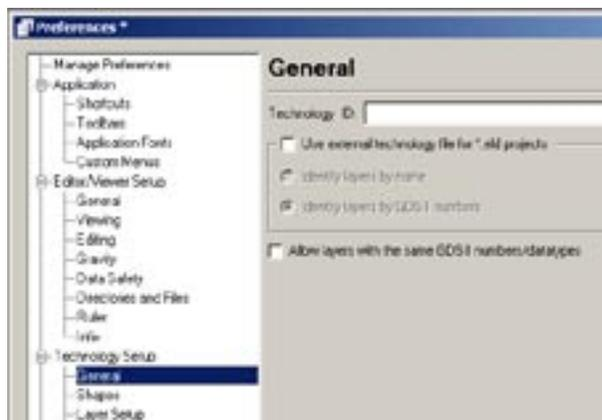

Figure 2. Use external technology file for \*.eld project option
A. Your default setup for the option "Use external Technology file for \*.eld project" was probably changed inadvertently. Under Setup>>Technology...>General... (see Figure 2) please uncheck the box "Use external Technology file for \*.eld project". The default setup for this option is "uncheck". An \*.eld project contains all the technology information required. The specification of a technology file when opening an \*.eld project is done only in specific cases. In order to guarantee the use of the proper technology file for a given \*.eld project, you need to keep this option "uncheck" at all time.